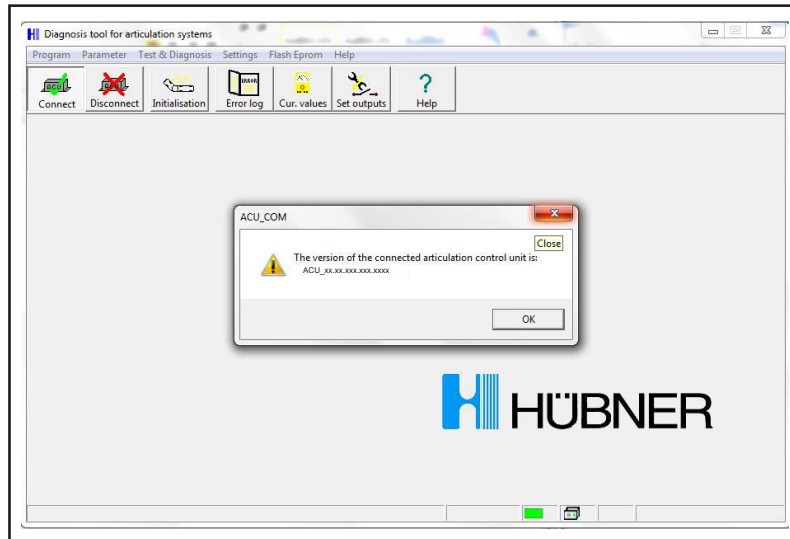

Figure 6 - Typical Window Identifying the Already Installed ACU Software
1.11. A pop-up window will appear to identify the already installed ACU software. See Figure 6. Click OK.